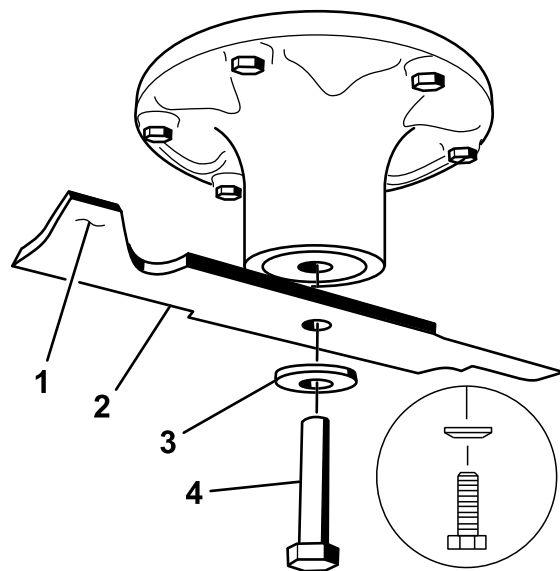
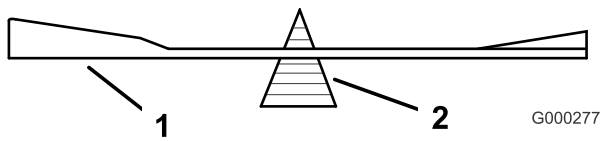

Figure 57
Figure 59
Hold the blade end using a rag or thickly-padded glove. Remove the blade bolt, curved washer, and blade from the spindle shaft (Figure 57).
2. Check the balance of the blade by putting it on a blade balancer (Figure 59). If the blade stays in a horizontal position, the blade is balanced and can be used. If the blade is not balanced, file some metal off the end of the sail area only (Figure 57). Repeat this procedure until the blade is balanced.
1. Install the blade onto the spindle shaft (Figure 57).
2. Install the spring disk and blade bolt. The spring disk cone must be installed toward the bolt head (Figure 57). Torque the blade bolt to 35-65 ft-lb (47-88 N-m).